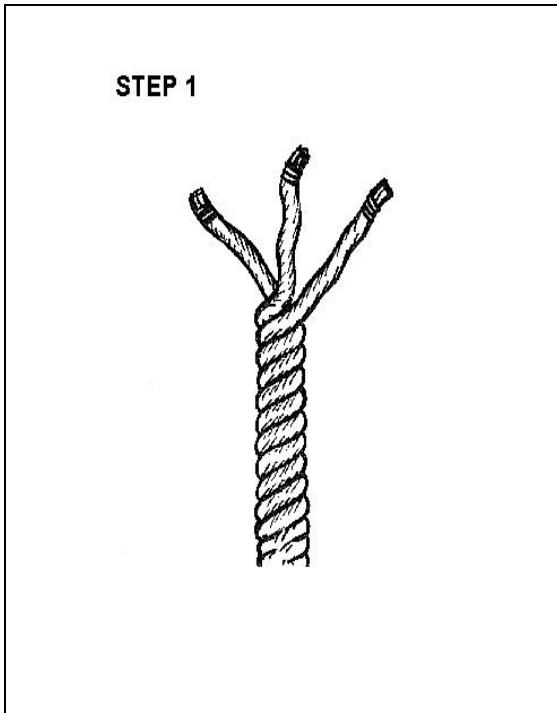

Figure 12-24. Making a Back Splice, Step 1
- **Step 1.** Unlay six turns of the line (Figure 12-24, page 12-22).